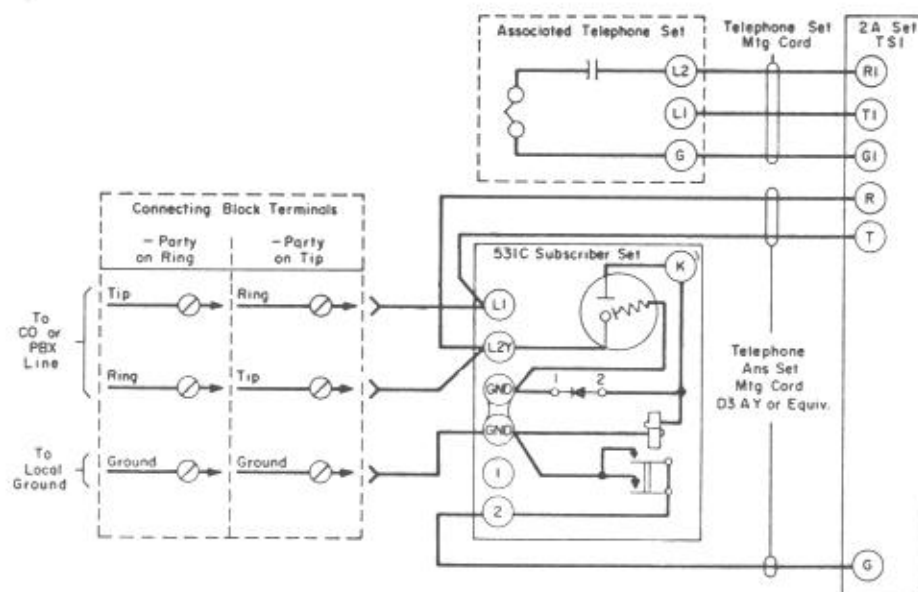

Fig. 17 — Station Connections for 4-party Selective, Flat or Message Rate, Manual or Dial, (—) Party on Tip or Ring
8.05 Wiring changes must be made in the 531C subscriber set as shown in Fig. 17 and 18.